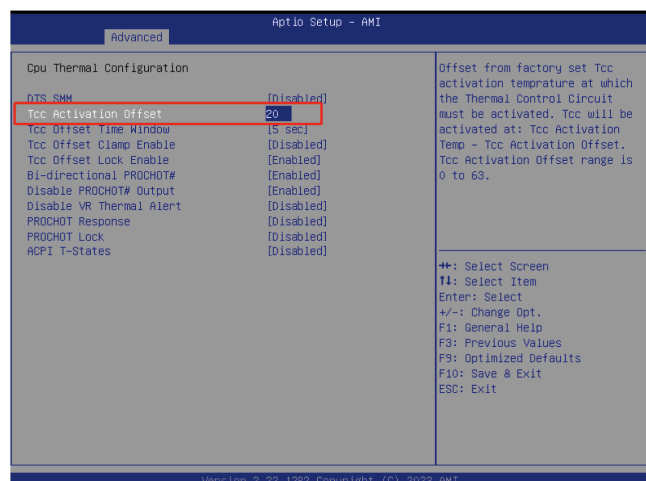

Figure 2-8-5
Figure 2-8-5 shows the Chipset interface.
⑤ After entering, press the ↓ key to select Tcc Activation Offset, the default value is 20 (representing 100-20=80°), and the value is changed to 30 and the temperature limit is 70°. Keypad input numbers. Figure 2-8-5.